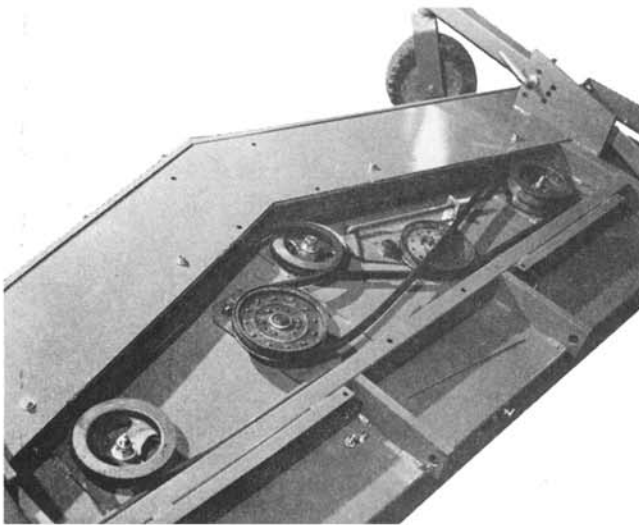

fig 20
7. Place the "long" belt around the pulleys and idler as shown in fig 20 or diagram on mower.